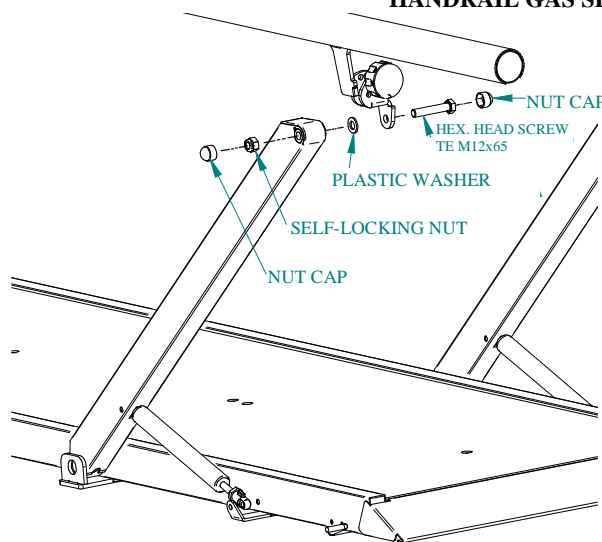

Fig. 3
6. Install the handrails with the hardware provided: tighten the self-locking nut thus allowing smooth height adjustment (Fig.3).